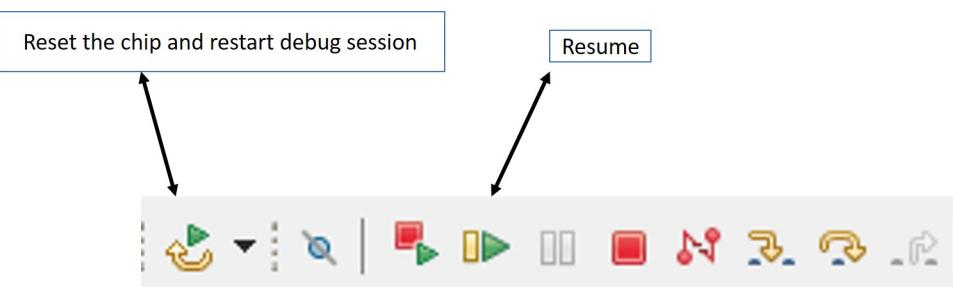

Figure 5.10: Going to a Breakpoint
- To go directly to the breakpoint, click on resume, as shown in Figure 5.10.
- To restart debugging or reset the chip, click on the reset button shown in Figure 5.10.
- In debug mode, we can run the code on the MCU using the run button as shown in Figure 5.10.